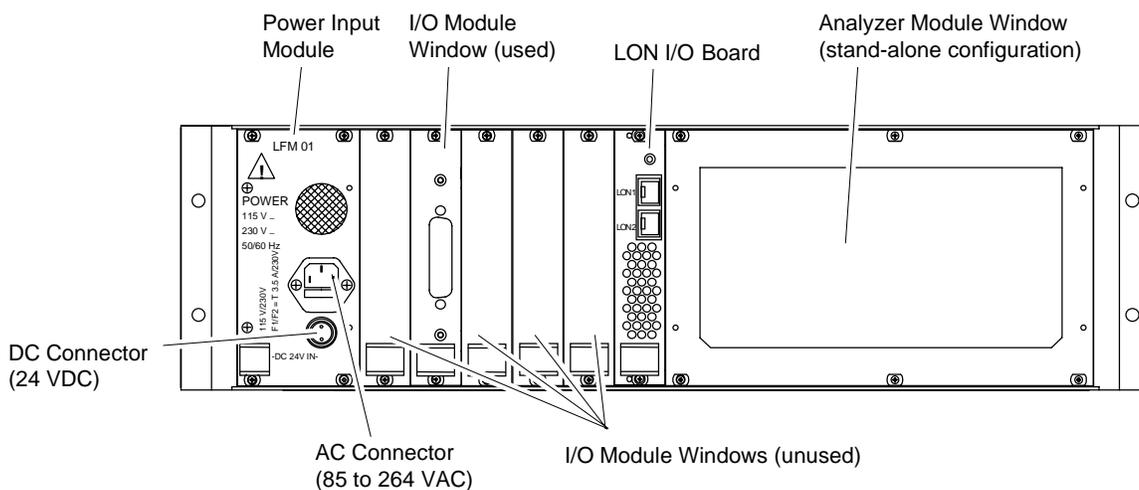

FIGURE 1-11. I/O MODULE LOCATION IN PLATFORM – REAR PANEL VIEW (INSTRUMENT CONFIGURATION)
1. Remove a blank panel from one of the unused I/O Module slots as shown in Figure 1-11. Retain the blank panel for future use.